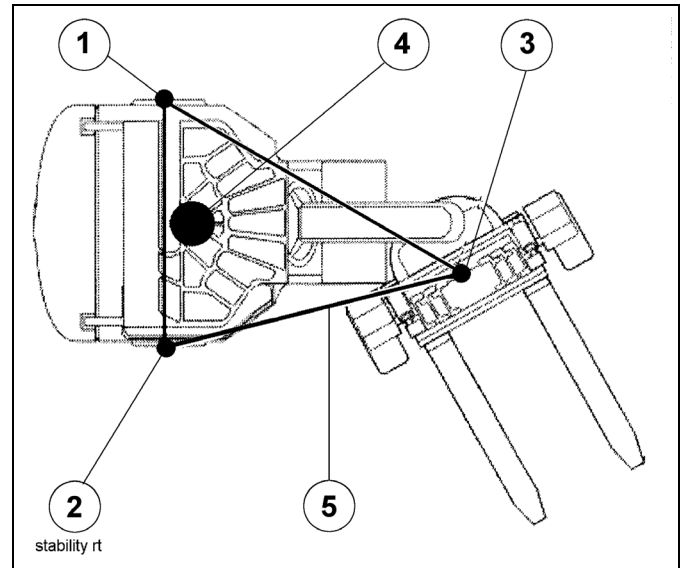
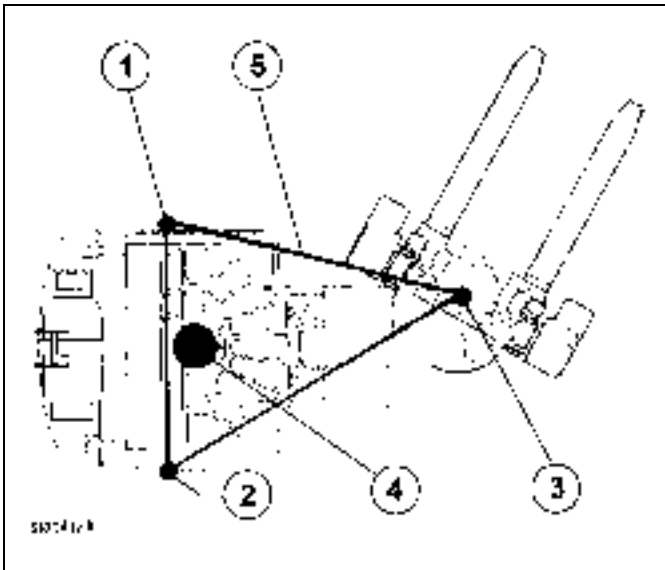

Figure 3-14: Right View 90° Stability
Figure 3-15: Left View 90° Stability
The concepts concerning stability are relatively easy to understand. As the angle between the forks and the body of the truck approaches 90° to the right (See Figure 3-14) or left (See Figure 3-15), the truck is in its least stable position. Unlike an automobile which has four points of suspension, the Bendi B40i4 forklift truck operates on a three-point suspension. When the forks are turned nearly 90° to the right, two of the suspension points are on the rear axle (item 1) and (item 2). The third suspension point is the center point of the front wheel (item 3). The center of gravity, an imaginary point at which all of the truck's weight is concentrated, is located as shown (item 4) when:
Again, imagine a triangle, drawn between the three suspension points. The forklift is most vulnerable in three conditions: See Figure 3-15.